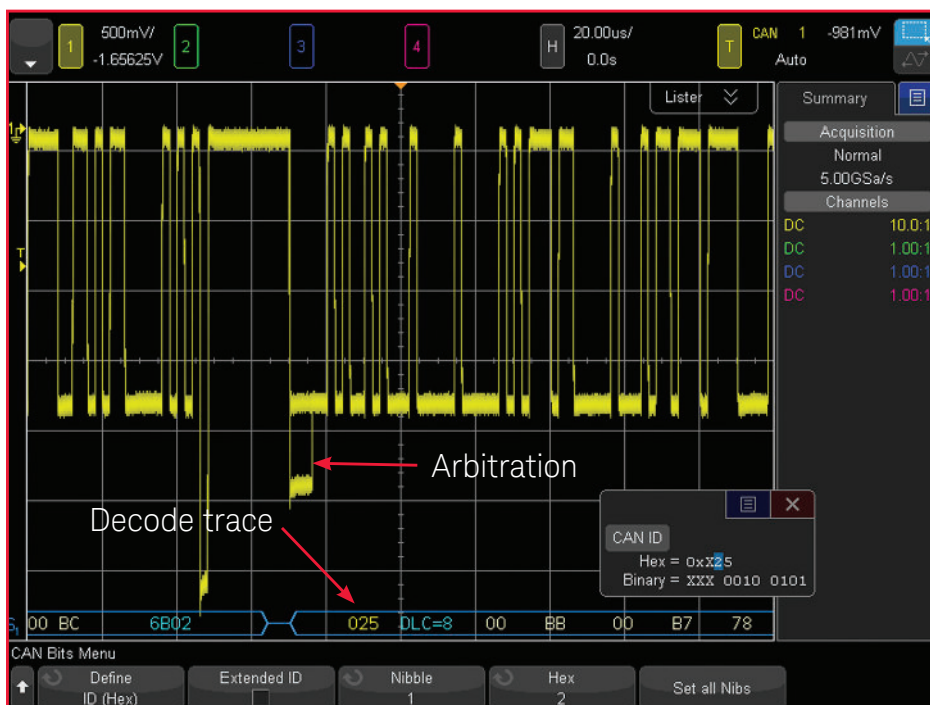

Figure 10. Triggering on a serial CAN frame that sometimes includes arbitration.
As mentioned earlier, Zone Trigger can be used in conjunction with more complex triggering, including serial bus triggering. Figure 10 shows an example of the scope triggering on a Controller Area Network (CAN) bus data frame with an ID equal to 025HEX. Note that you can observe the time-correlated decode trace near the bottom of the scope's display, which begins with the frame ID (025).
In Figure 10 we can see that the first pulse in frame 025HEX exhibits two different low-level amplitudes; sometimes it's low — and sometimes it's lower. When the signal goes to the lowest level, this is evidence that two nodes are attempting to transmit data at the same time and arbitration begins. When this pulse pops back up, this indicates that the arbitration process has finished and frame 025HEX won the priority battle.